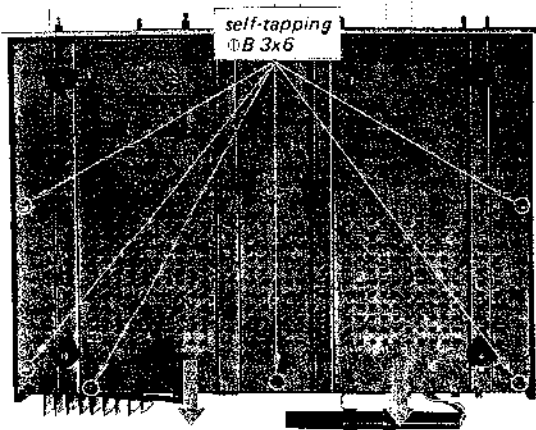

Fig. 2-2. Bottom plate removal
2. Remove the six self-tapping screws (\oplus B 3x6) at the bottom of the receiver and pull the bottom plate in the direction indicated by the arrow in Fig. 2-2.